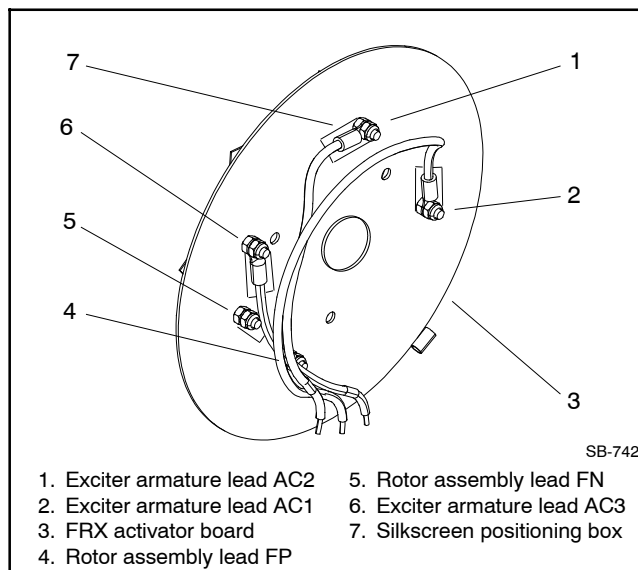

Figure 8 FRX Activator Board
- 4.1 Attach exciter armature leads (AC1, AC2, and AC3) to the new FRX activator board GM94400 using elastic stop nuts. Position leads as shown on silkscreen box and torque to 1.3 Nm (12 in. lb.). See Figure 8.